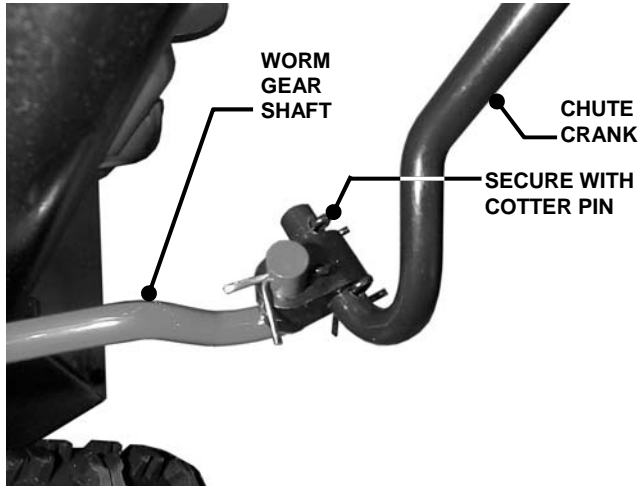

FIGURE 6
**STEP 6: CHUTE CRANK:** Connect chute crank to worm gear shaft and secure with cotter pin. See Figure 6.